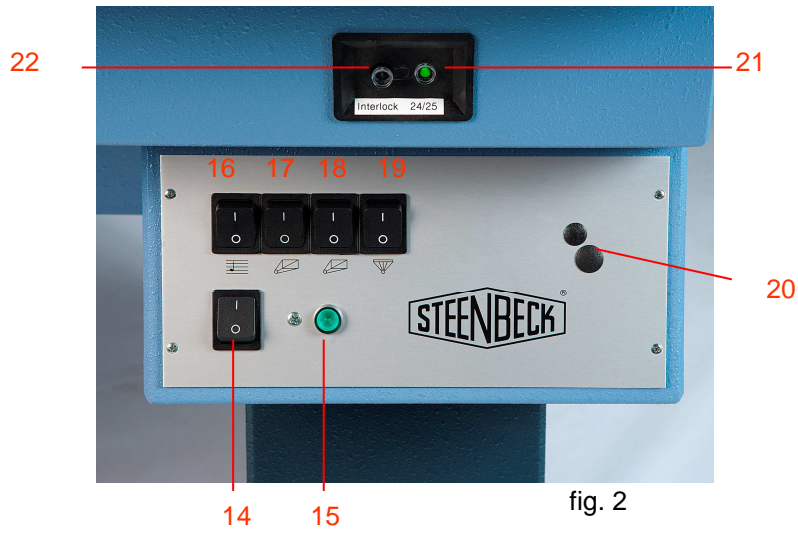

fig. 2
5.2 SWITCH BOARD and PRESSURE SWITCHES: (fig. 2 page 10)
Switch the 01-Series on with the main switch (fig.2 #14 page 10), it shows a green light.(15)
Attention: in order to prevent unnecessary wear, when threading film without sound, never use the magnetic head (fig. 5 #50 page 11) and sprocket (37), and switch off the sound (fig. 2 #16 page 10).